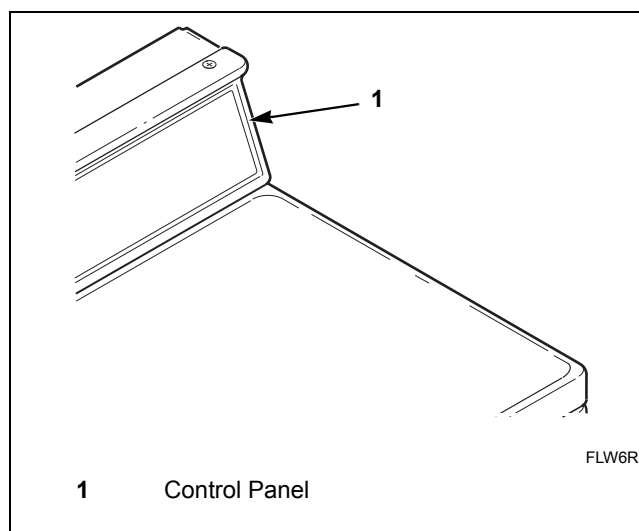

Figure 17
1. Open control panel. Refer to *Figure 17*.